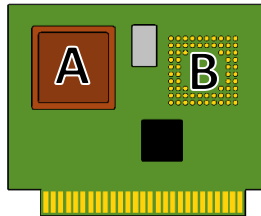
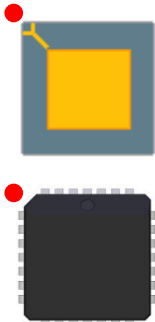

Fig. 1
Fig. 2
If you purchased your NumberCruncher Reloaded without any FPU, please install one now. Like all integrated circuits FPUs are prone to static charge. Ground yourself before handling the FPU. Holding the card with its slot-connector facing down (Fig. 1), insert the FPU in either the left PLCC (A) socket or the right PGA (B) socket with pin-1 in the upper left corner (Red dot in Fig. 2).
- 5) Install your NumberCruncher Reloaded in any slot numbered between 1 and 7. Ensure that the component side of the board (the side with the lettering) faces to your right in the direction away from the power supply. Refer to the red arrow in Fig.2.